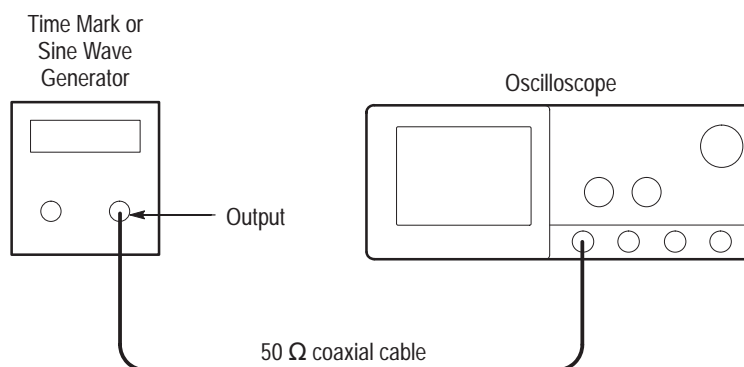

Figure 4-12: Initial test hookup
- a. *Hook up the test-signal source:* Connect, through a 50 Ω precision coaxial cable, the output of the generator to **CH 1** (see Figure 4-12).